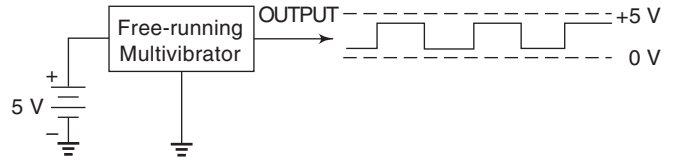

Fig. 7.3 Free-Running Multivibrator Generates a String of Digital Pulses.
The block diagram of a free-running multivibrator, also known as an *astable multivibrator* is shown in Fig. 7.3. The free-running multivibrator (MV) generates a continuous series of TTL level pulses. The output alternately goes LOW and HIGH.